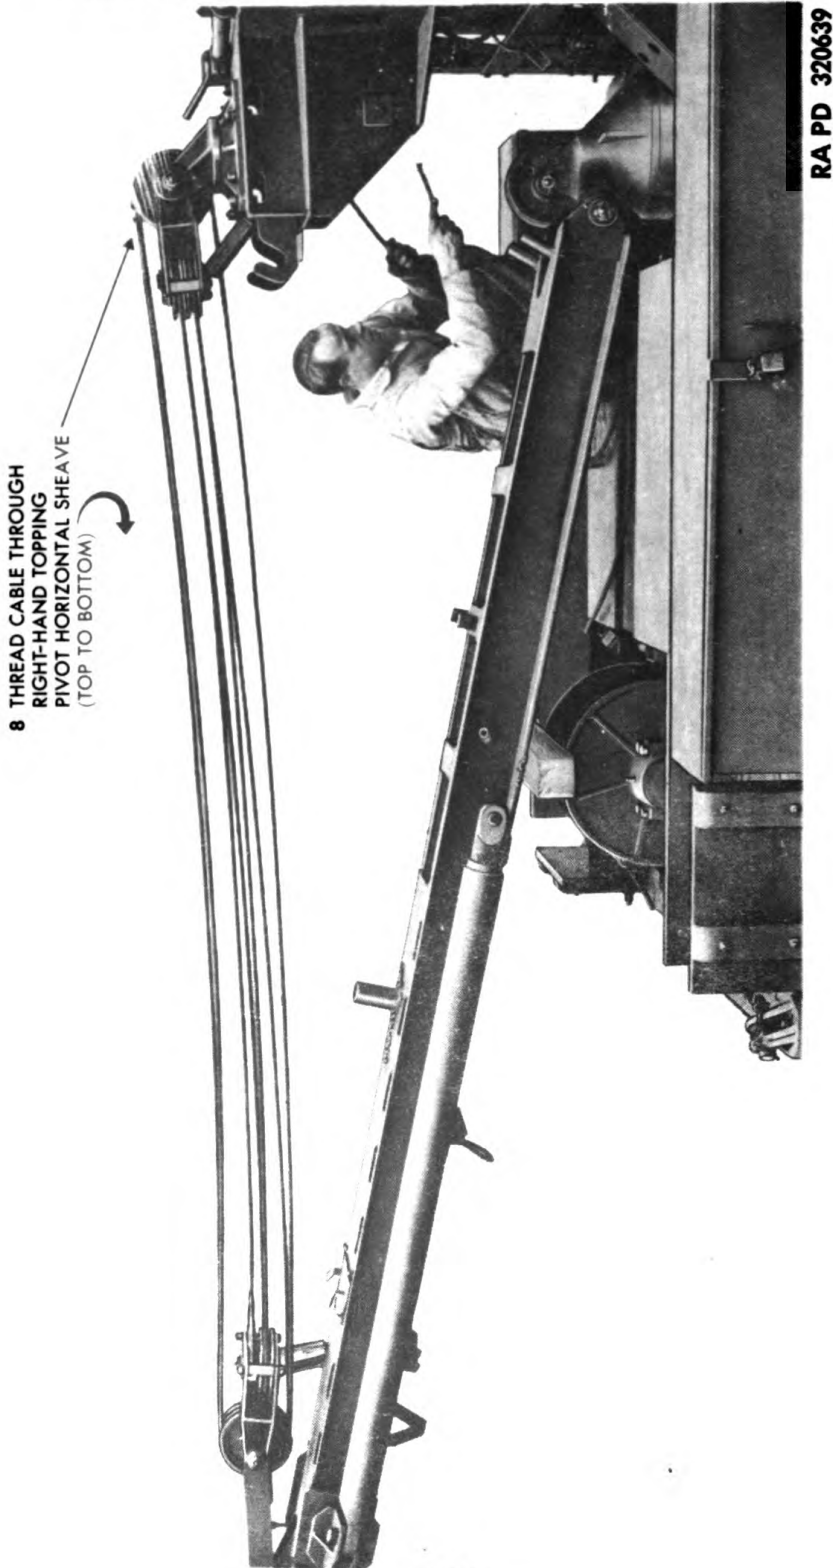

Figure 78 – Installing Boom Topping Cable
(3) Thread cable over top of the right vertical block, down through opening in topping pivot, under the right crane frame guide sheave, over top of the right fleeting sheave, directly above boom topping drum. Clamp end of line under the cable clamp on drum, and engage the boom winch to "BOOM UP," holding cable tight on drum until boom lifts. The cable is underwound on the drum (fig. 78).